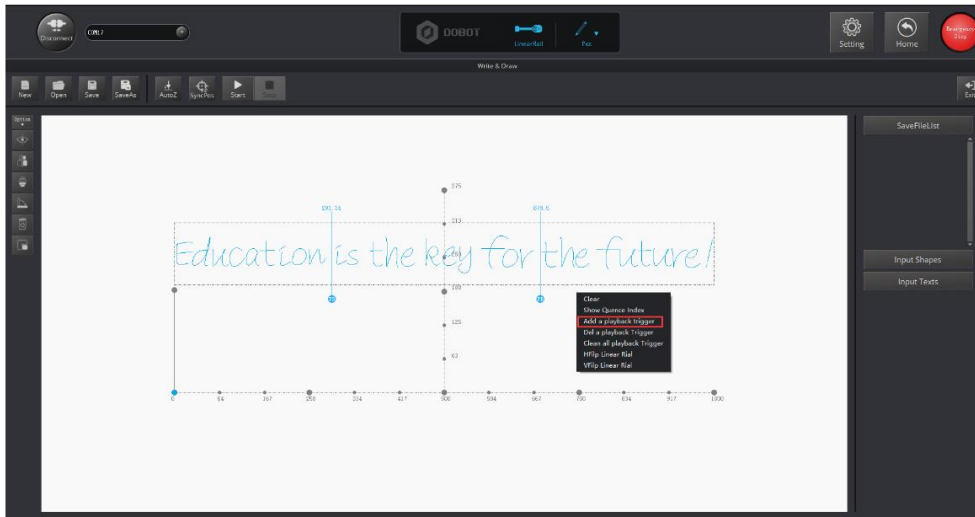

Figure 1.19 Set dip ink position
1. Right-click the blank space on the **Write&Draw** page and select **Add a playback trigger**. As shown in Figure 1.19